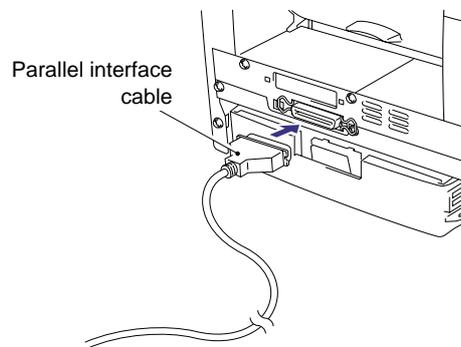

Fig. 2-13
- (1) Turn off the power switch.
- (2) Connect the parallel interface to the computer, then connect it to the printer. (Fig. 2-13)
- (3) Use the clips on the printer connector to secure the parallel interface cable.
- (4) Turn on the printer power switch.